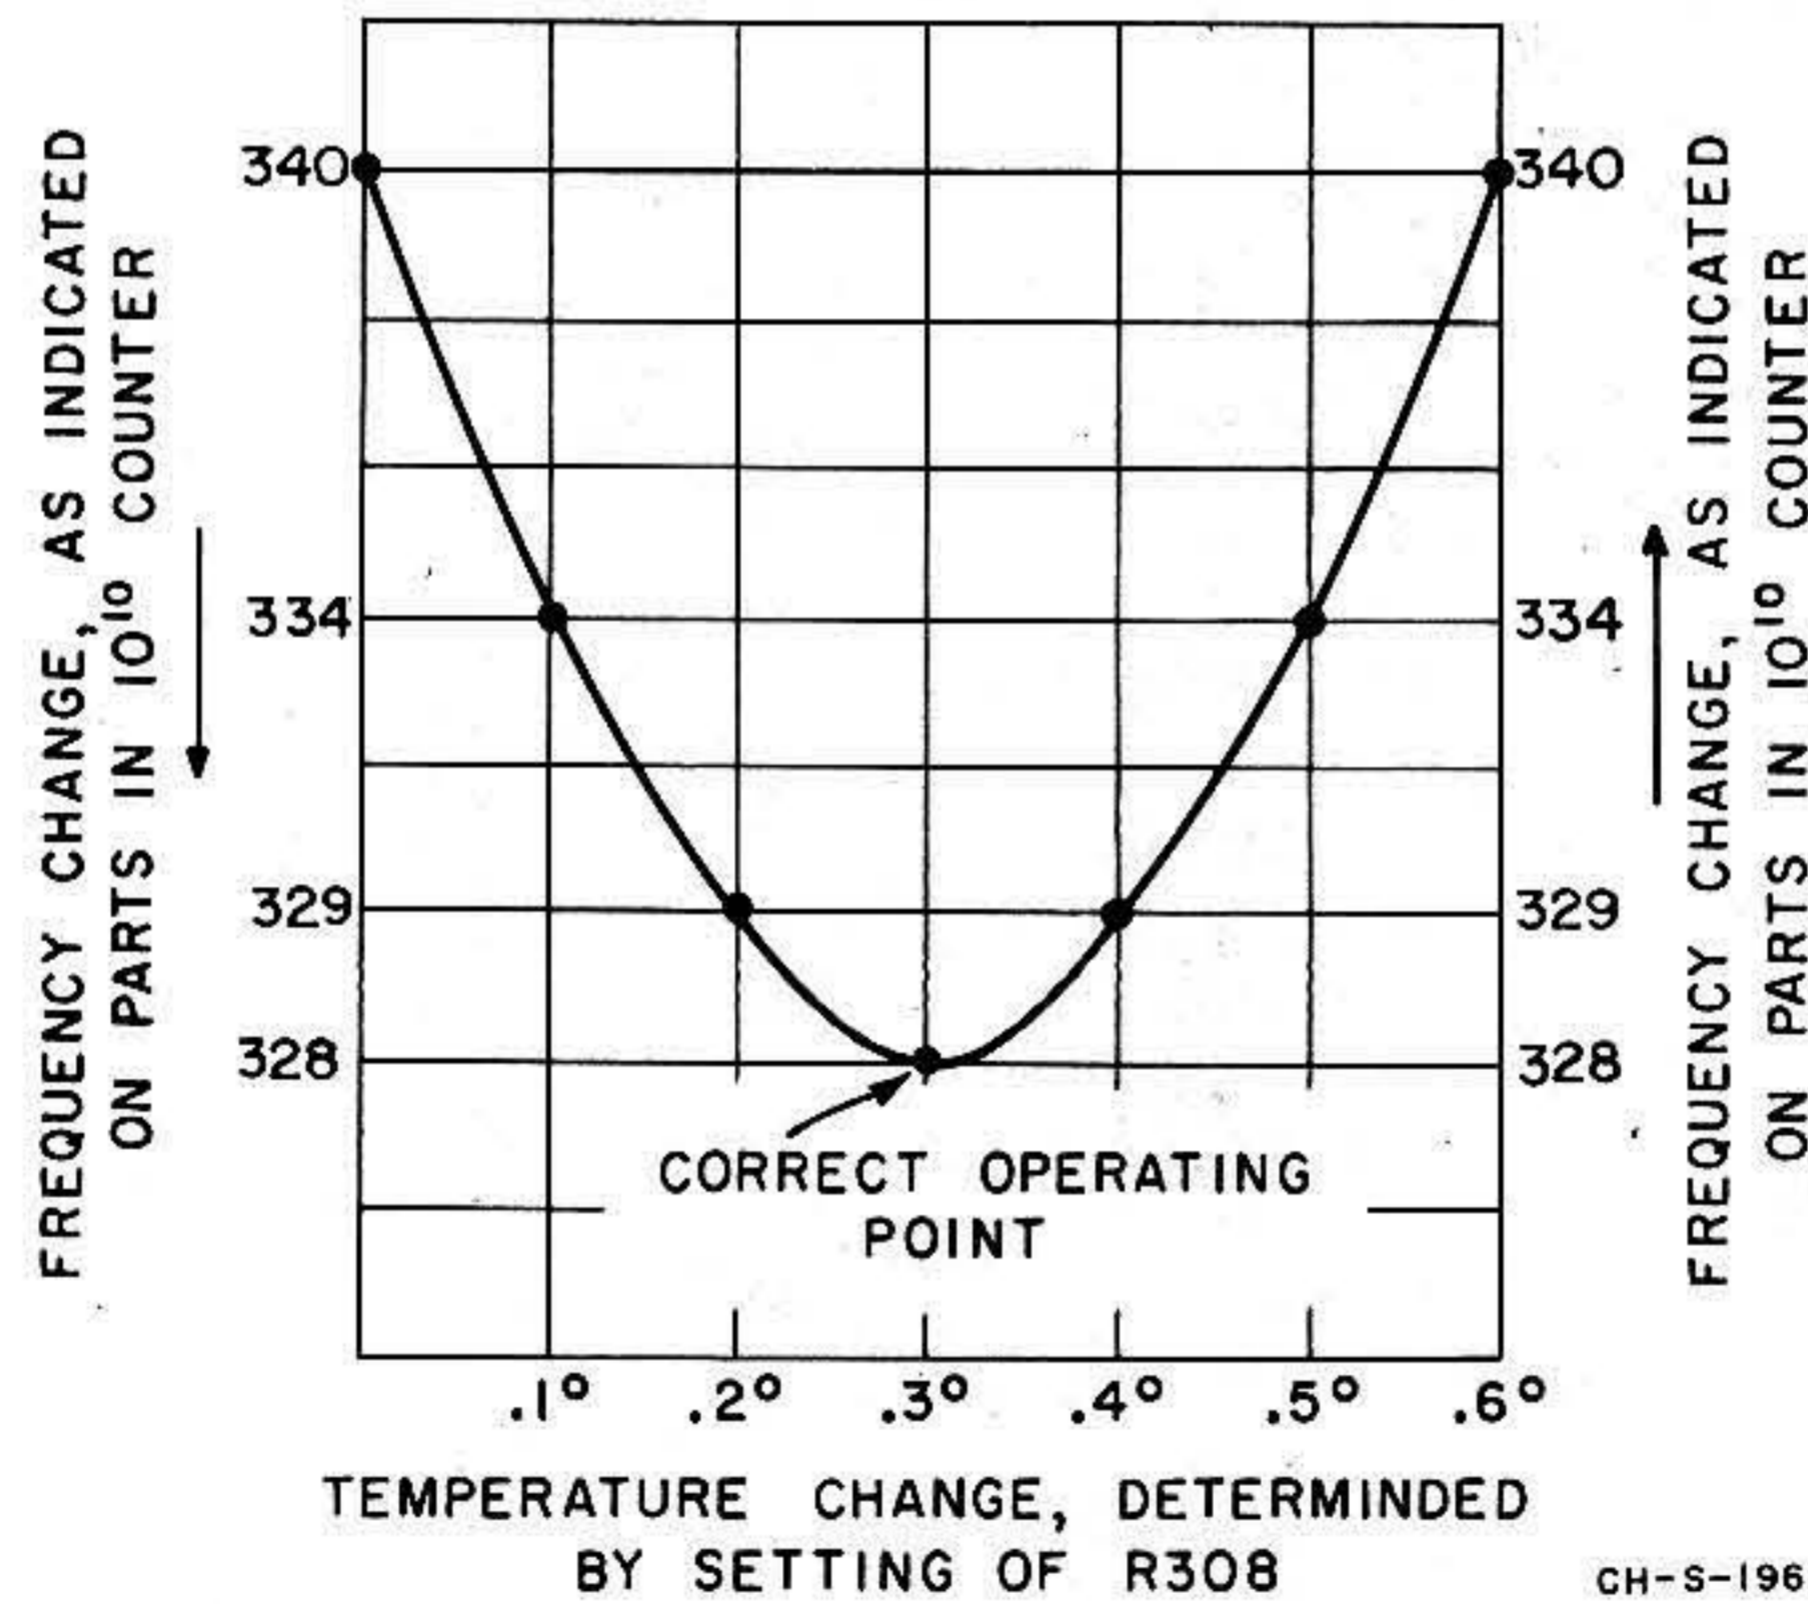

Figure 8-1. Sample Curve
h. After 45 minutes obtain a zero beat on the oscilloscope by adjusting the oscillator FINE FREQ. ADJ. Record the change on PARTS IN 10^{10} counter. If the change in parts in 10^{10} is becoming smaller, repeat steps f and g until a very small change in parts in 10^{10} is noted. The oscillator crystal operating point is then at the vertex of the curve in figure 8-1.
i. Repeat steps f and g four more times. The change in parts in 10^{10} should become larger. Plot the curve as shown in the sample curve of figure 8-1.
m. When a curve similar to figure 8-1 is obtained, adjust R308 back the number of positions necessary to place the crystal operating point at the vertex of the curve. For example, if from 328 to 340 parts in 10^{10} in figure 8-1, R308 was changed three times, then back R308 three positions. The crystal operating point will then be at the vertex of the curve.